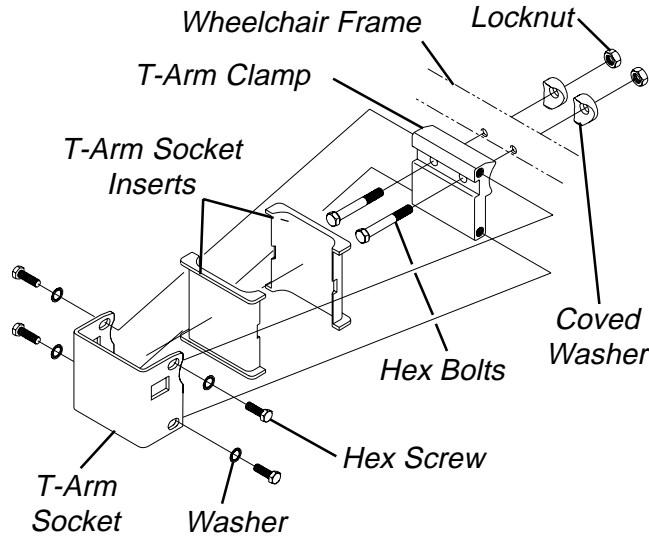

FIGURE 6 - INSTALLING T-ARM SOCKETS
INSTALLING T-ARM SOCKETS (FIGURE 6)
2. Position the T-arm clamp on the wheelchair frame as shown in FIGURE 6.
4. Position the T-arm socket inserts in the T-arm socket as shown in FIGURE 6.
6. While holding the T-arm socket and the T-arm clamp together, install the four (4) hex screws and washers into mounting holes and tighten loosely.